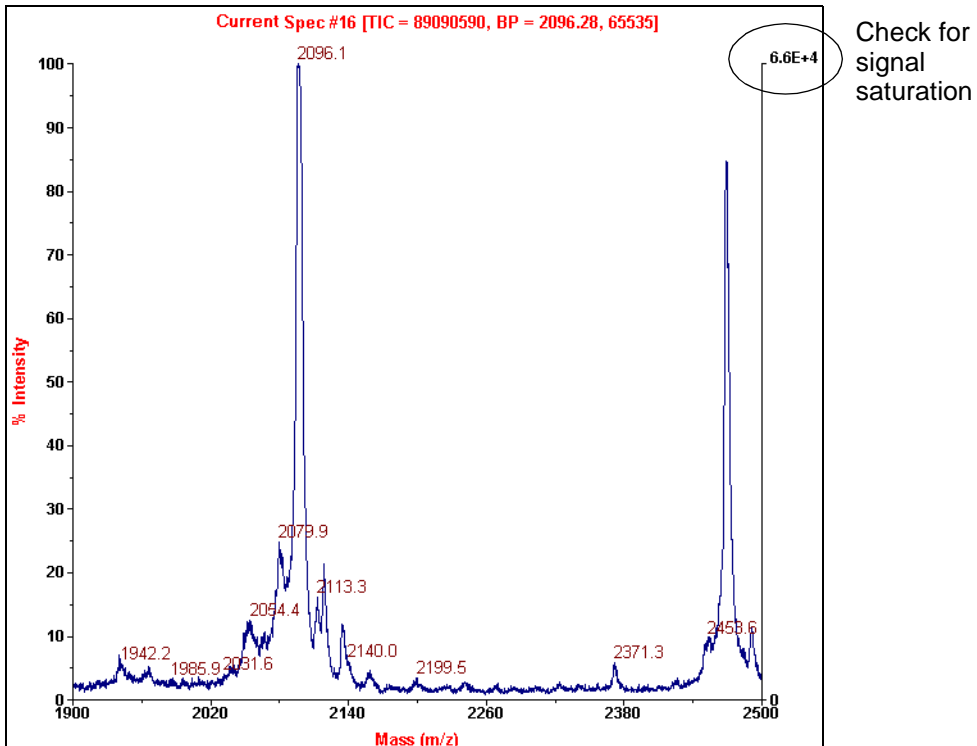

Figure 4-10 Evaluating the Spectrum—Saturated Signal and Broad Peaks
3. Examine the peaks and the right axis in the Current Spectrum trace to determine if signal is saturated (Figure 4-10).
Note the following about the example shown in Figure 4-10: